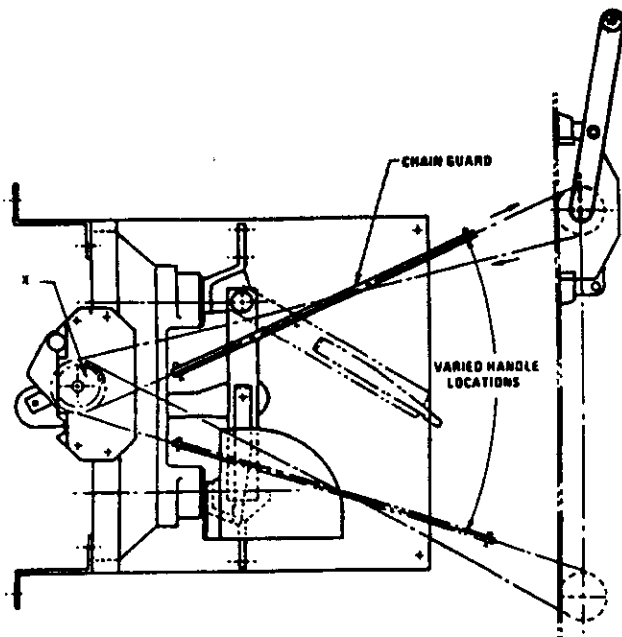

Fig. 9 Handle "UP" in switch closed position.
The component parts for this type installation are shown in Fig. 9. The switch and frame are mounted vertically in the enclosure. The arc chute interrupters are situated below the blade hinge. The switch is chain driven with the handle located on the left front corner of the enclosure. Normally, the handle is in the "UP" position with switch closed.
- Assemble the chain drive sprocket kit (Mk 302, Dwg. 316-557, sprocket, washer and retaining ring) on the stored-energy device of the switch, at the left as shown at (X) in Fig. 9.
- Mount the frame-mounted switch (Fig. 9) in the enclosure.
- With switch closed and handle in corresponding up position, assemble chain from drive handle sprocket to switch stored-energy device sprocket, criss-crossing the chain and adding the chain guard as shown in Fig. 9.